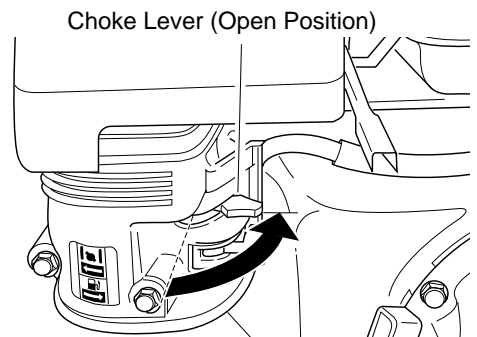

Figure 21 - Choke Lever Opened (Model MGH7000C Shown)
5. As engine warms up, slowly move choke lever fully to the right (see Figure 21). This opens the choke. On Model MGH10000, the choke will automatically open.